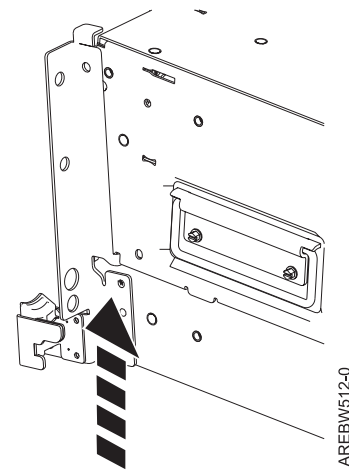

Figure 54. Move the bracket up to engage the tab
- c. Move the bracket up to engage the tab as shown in Figure 54.